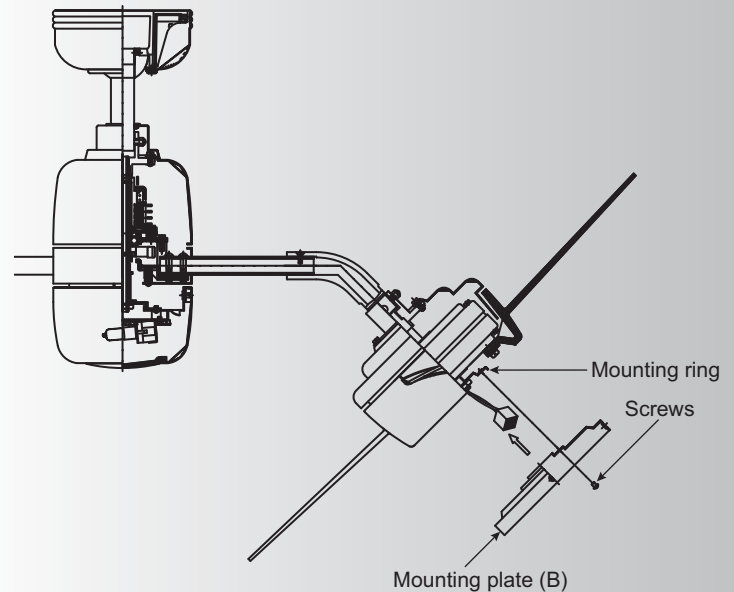

Fig. 20
1. Loosen the two screws on the mounting ring attached to the motor shaft and "remove" and save the third screw. (Fig. 20)
2. Place the key hole slots on the mounting plate (B) over the two screws previously loosened on the mounting ring.